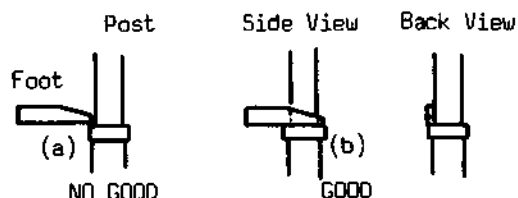

Fig. 2-13
- Set the fixture to '0' and slowly raise the post until it touches the foot. When the foot touches the post, it should fit as shown in Fig. 2-13. For adjustment of P2 and P3, use the post adjustment screwdriver.